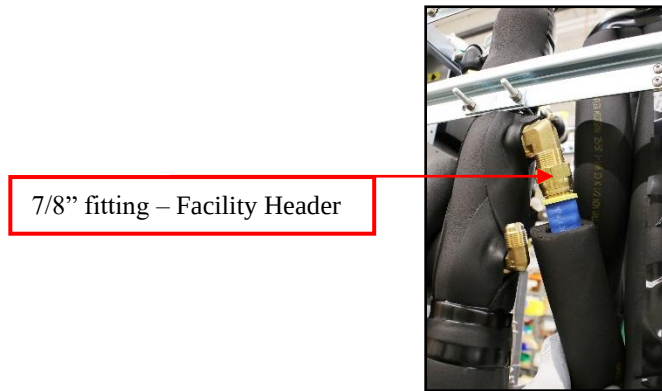

Figure 6 Facility Supply Hoses (PE & GC)
- Using the 7/8" wrench and adjustable wrench as a support, remove GC or PE hose from Facility Supply Header. (Figure 6 below)